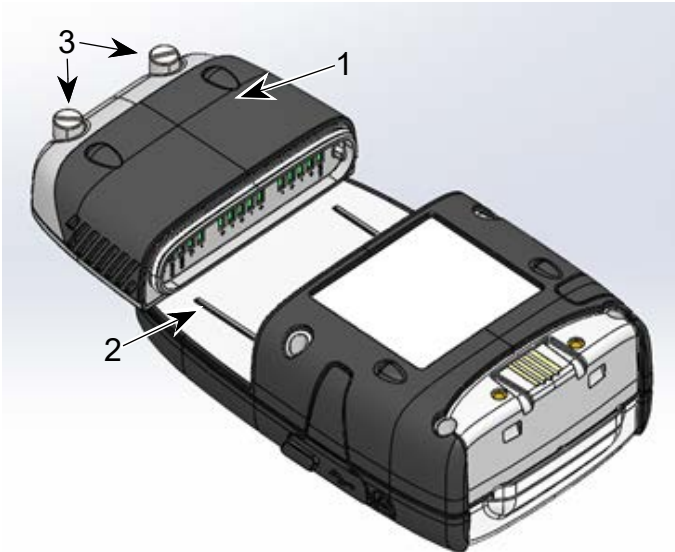

Figure 1-4: Installation of the IS Battery
- Slide the battery fully [1] onto the bottom of the instrument [2] see Figure 1-4.